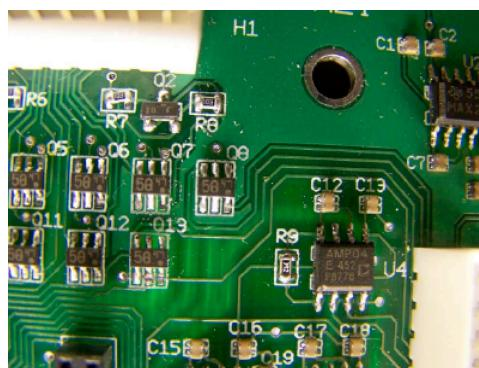

Figure 9.1: A printed circuit board
The printed circuit board (PCB) is the answer. Most likely you are already familiar with printed circuit boards, as almost every consumer electronics item has at least one in them. They are used to both hold components in place and provide the electrical connections between the components. A picture of one is shown in Figure 9.1.
- Components - Various electronic components are attached to the board. In Figure 9.1, the components are surrounded by white borders. These borders are made from an ink that is silk screened on. Each component is also labeled with a designator, like R9. The letter signifies the component type (R for resistor) and the number signifies it is the 9th resistor.